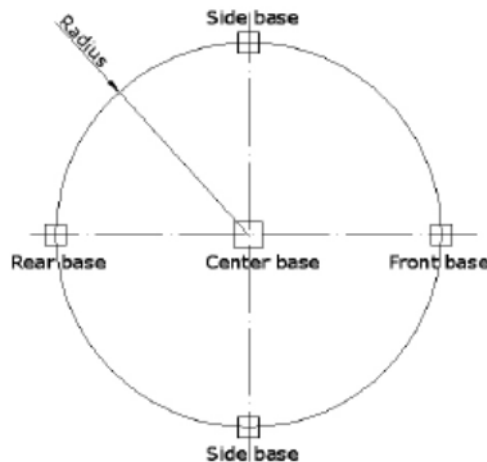

Figure 1: layout of concrete base
1. Dig the holes to follow the pattern as shown in Fig.1. Please refer to the Table 1 for the dimensions of the holes.